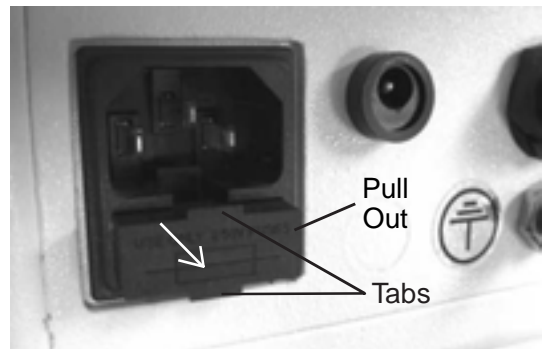

Figure 37 Pull Out
2. Press down on the top tab in the middle of the Power Input Module to release the Fuse Holder, and gently pull out the Fuse Holder by gripping the two small tabs. Refer to Figures 37 and 38.